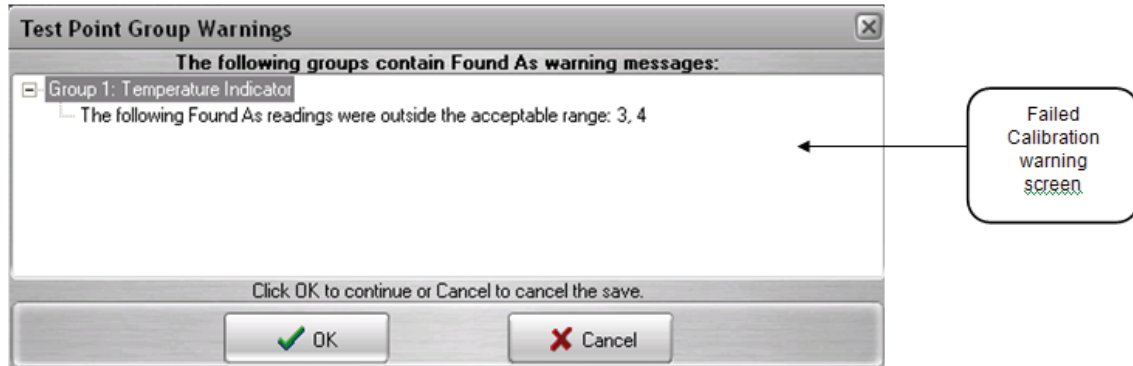

Figure 19.4
2. If you try to save a failed calibration record, but you have selected the *Pass* circle instead of the *Fail* circle, the System will also warn you (see Figure 19.4). In addition, this warning screen will also tell you at which test point(s), in which groups the item failed. When the message screen appears, you may click the Yes button to instruct the System to automatically mark the *Fail* circle for you, thus saving the record as a failed calibration. If you click the No button, the new record will be saved as a passed calibration and the *Pass* circle will remain selected. Finally, clicking the Cancel button will return you to the unsaved record. Conversely, if the *Fail* circle is selected, but there are not any test points that were actually left outside of the acceptable spec limits, then upon saving the record the System will warn you of this and ask if you would like the *Pass* circle selected instead.